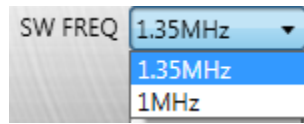

Figure 16: Switching Frequency Setting
14. Set the switching frequency (see Figure 16). The switching frequency can be set to 1.35MHz or 1MHz, and the default value is 1.35MHz.